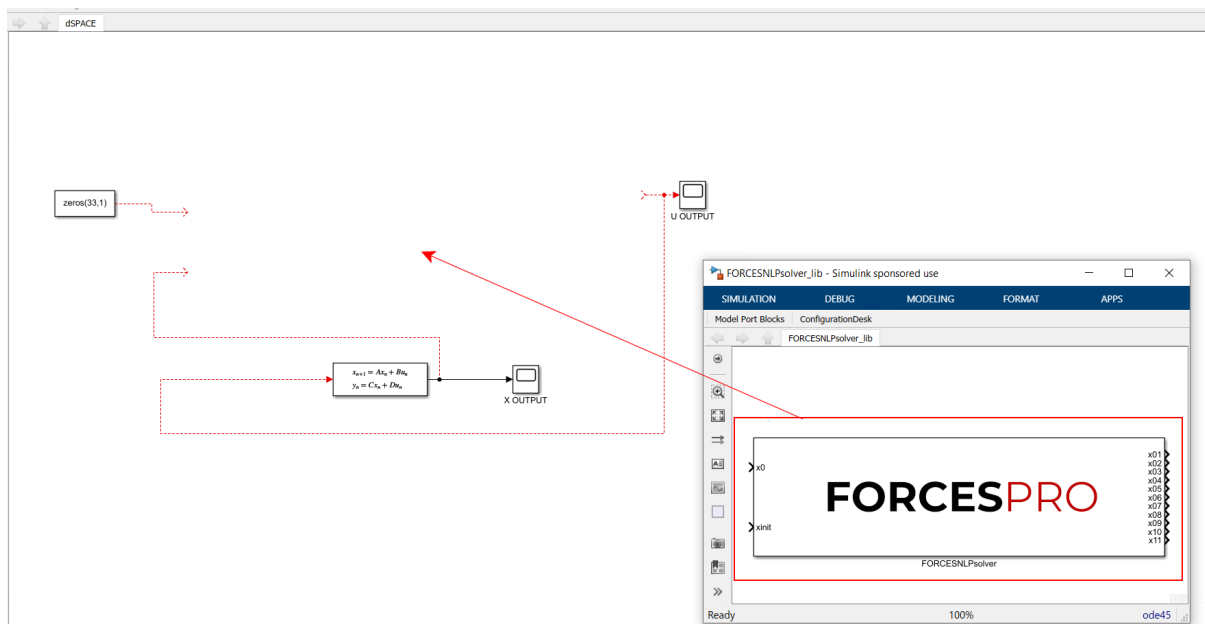

Figure 13.35: Open the generated Simulink solver model.
- 6) Open the `FORCESNLPsolver_lib.mdl` Simulink model file, contained in the `interface` folder of the `FORCESNLPsolver` folder created during code generation (see Figure 13.35).